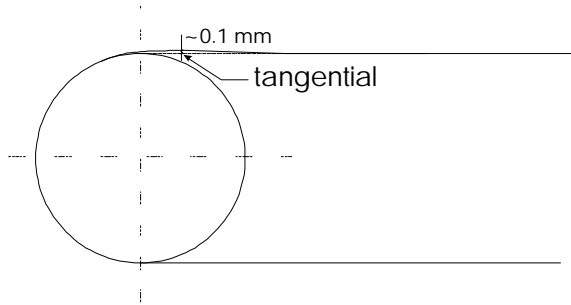

Fig. 4
10. Tension band with tension screw until band is nearly tangential to the roll. The band can be pressed still a little bit (~0.1 mm) to the roll (Fig. 4).